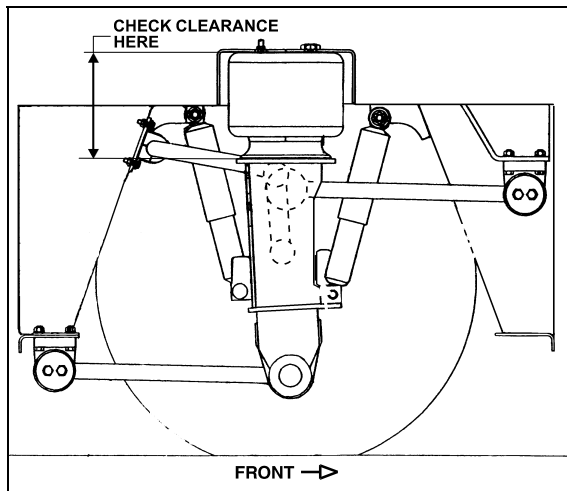

FIGURE 51: TYPICAL AIR SPRING CLEARANCE, FRONT I-BEAM AXLE
1. With the vehicle at normal operating air pressure, check the air spring clearance as illustrated in figure 51. This clearance should be $12 \pm \frac{1}{4}$ " (305 ± 6 mm) for the front I-beam axle air springs, $12 \frac{15}{16} \pm \frac{1}{4}$ in (328 ± 6 mm) for the Independent Front Suspension air springs and $11\frac{1}{2} \pm \frac{1}{4}$ " (292 ± 6 mm) for those on the drive axle.